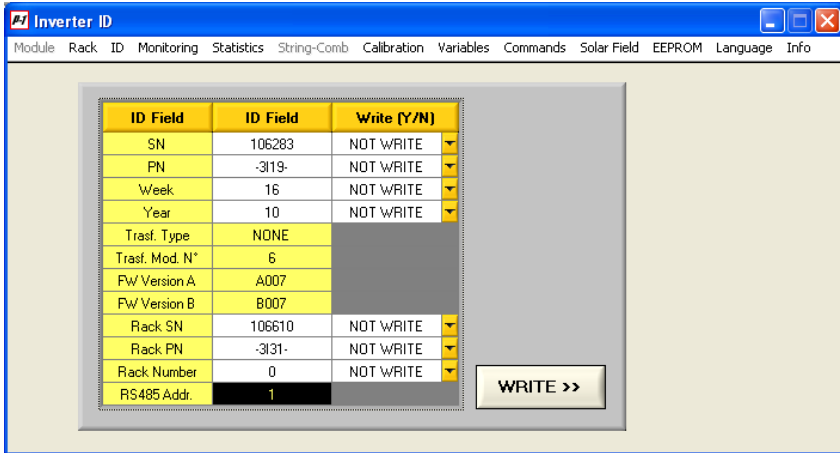

Figure 16-9: Inverter ID – Single Module Interface
- By pressing the corresponding [ENTER >>] button, access is gained to the management of the selected module (Figure 16-9).